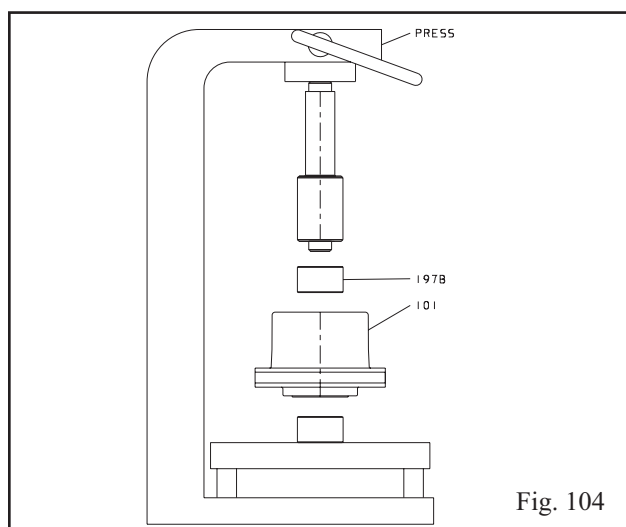

Fig. 104
1. Lubricate the outside of the radial bearing. Press the radial bearing (197B) into impeller utilizing the bearing installation tool. Support impeller with bearing press support tool, as shown. Line up keyway in bearing with key in impeller (Fig. 104).